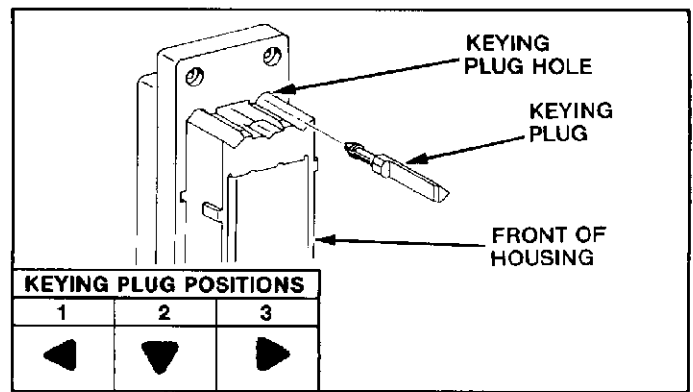

Fig. 4
6. INSTALLING KEYING PLUGS (206545-1) (Figure 4)